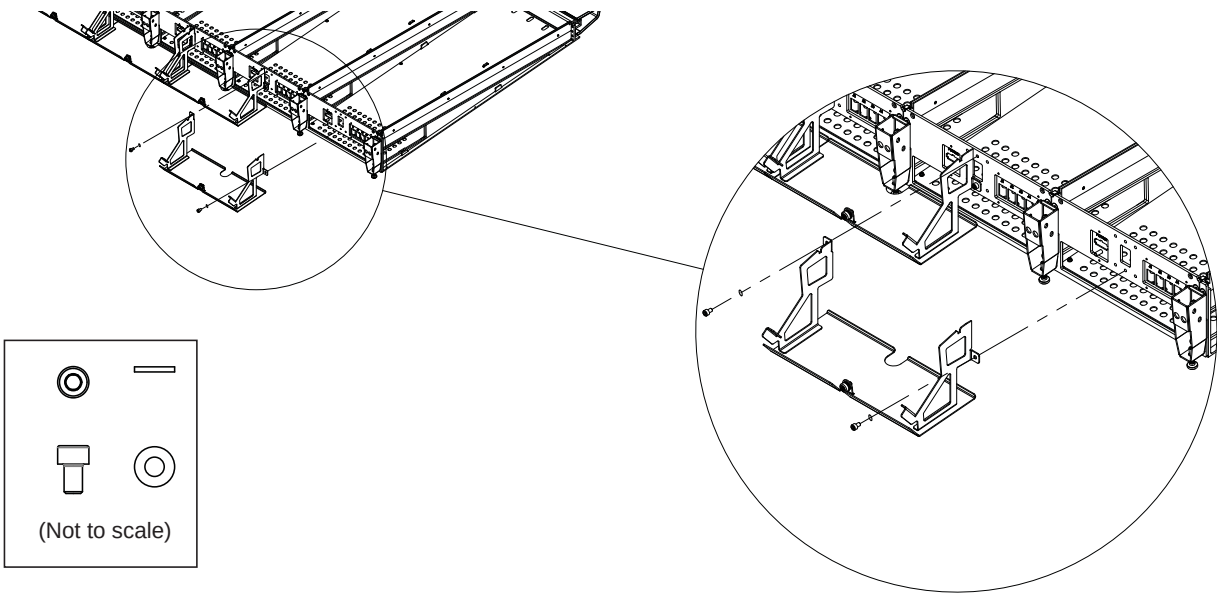

Figure 28. Attaching Rear Panel Mounting Brackets
- 2 Standing at the back of the frame, start at the far left and attach one Rear Panel bracket to the Back Tie Plates of the first two chassis using Hex fasteners and washers. Figure 28 shows how they are attached to the chassis.